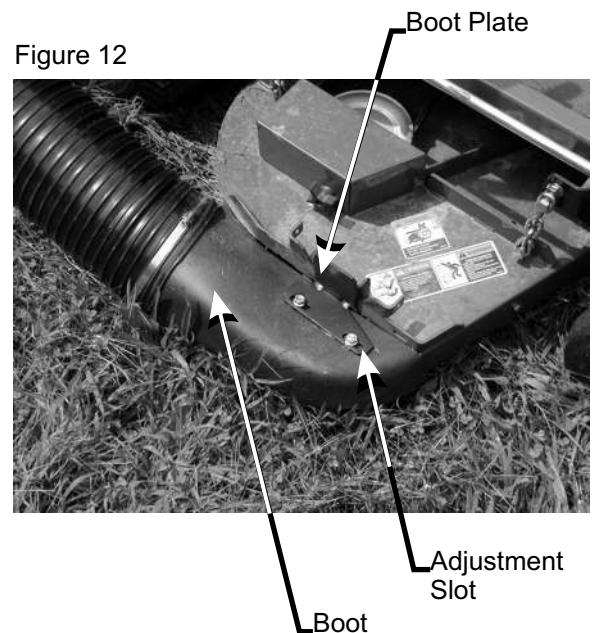

Figure 12
To mount the boot plate P#(B0079) to the boot P#(E1030) use (2) 3/8"-16 x 1" carriage bolts P#(K1182) and (2) 3/8"-16 flange nuts P#(K1215). Make certain that when bolting the boot and boot plate together, that the head of the bolt is placed from the inside of the boot. This will prevent grass from collecting on the bolts. The boot plate has adjustment slots for providing the best fit of the boot to the mower deck. Hang the boot onto the mower deck as shown in Figure 12.